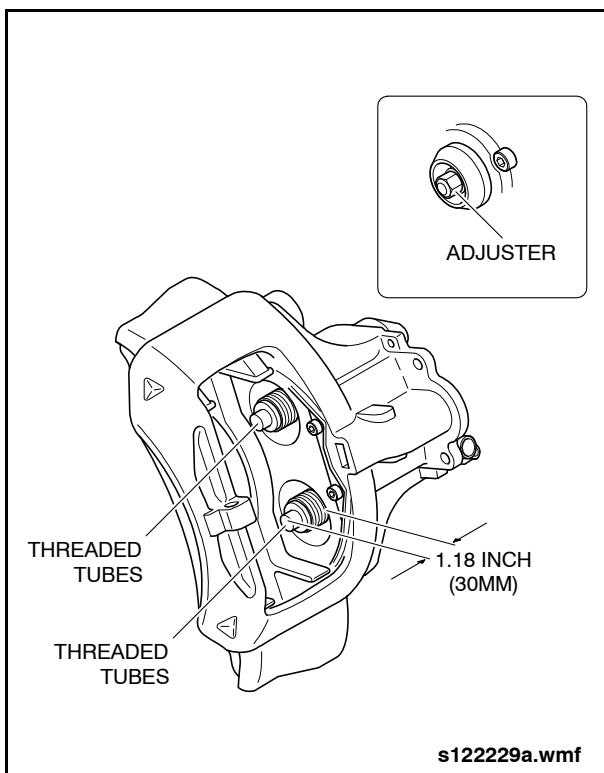

Fig. 1-68: Inspecting Threaded Tubes
1. Rotate the adjuster clockwise until the end of the threaded sleeve extends 1.18" (30 mm) from the caliper surface. See "Fig. 1-68: Inspecting Threaded Tubes" on page 71.